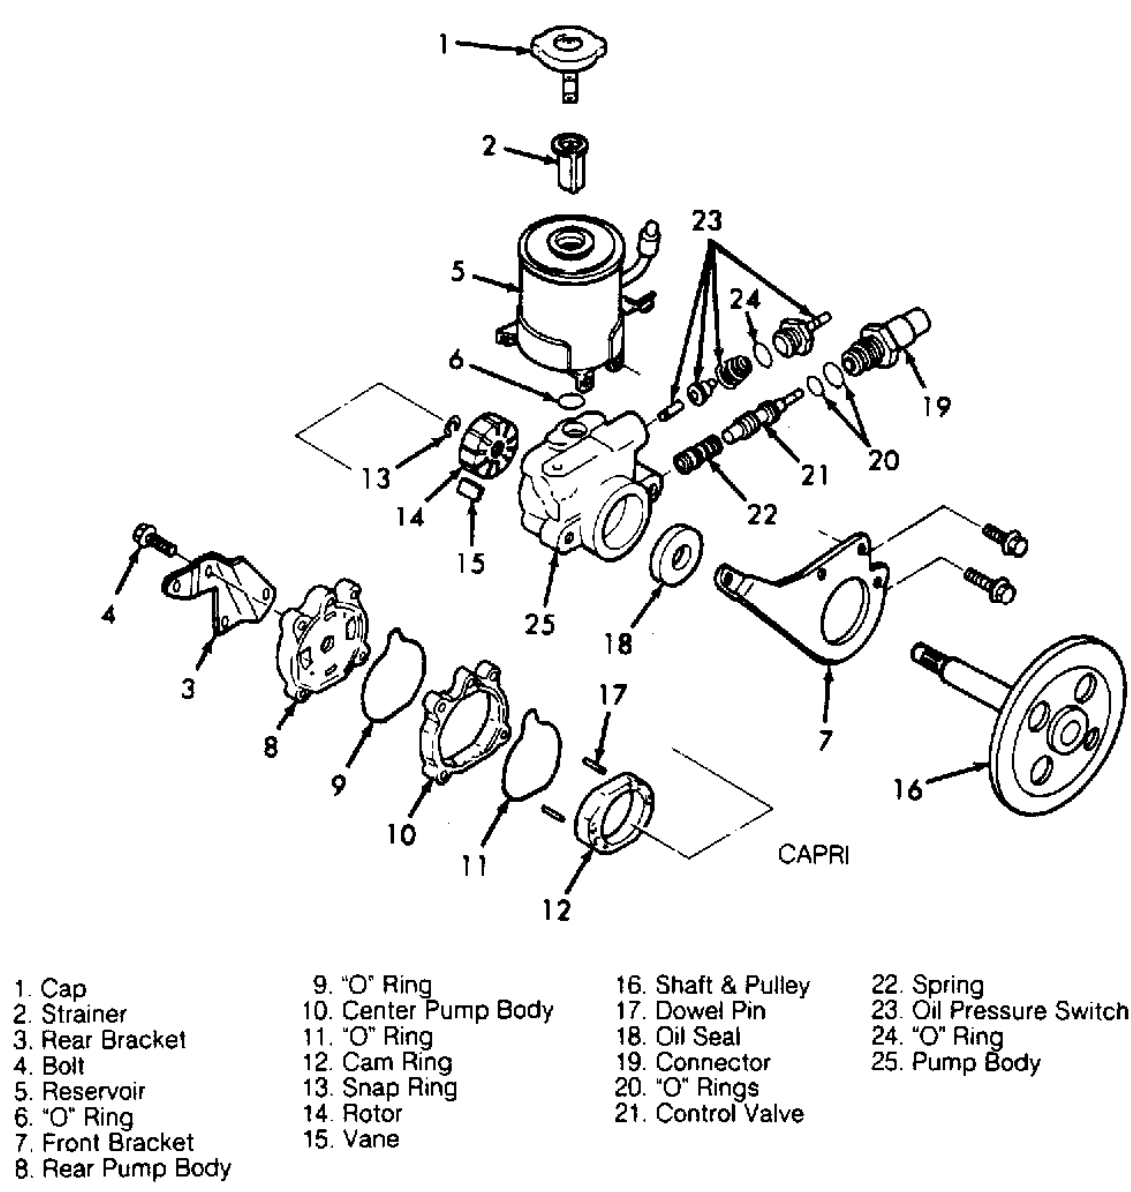

Fig. 6: Exploded View of Power Steering Pump (Capri)
1. Drain pump. Remove rear bracket, mount bolts and brackets. Remove reservoir and "O" ring. Remove rear pump body and "O" ring. Remove pump center body and "O" ring. Remove cam ring and pump shaft snap ring. Remove vanes from rotor. See Fig. 6 .